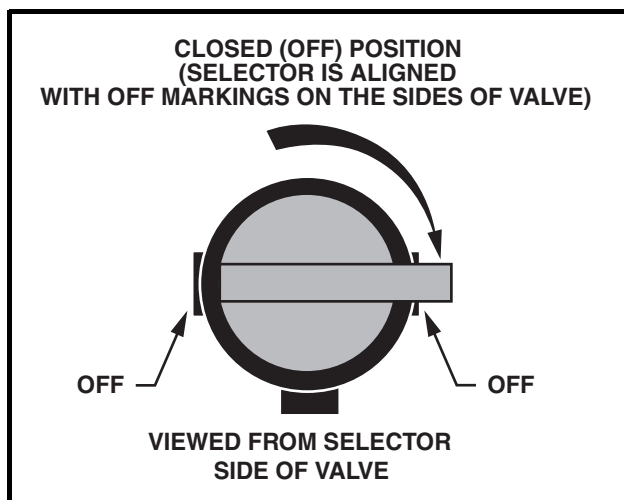

Figure 20 Fuel Shut-off Valve – Closed Position
2. Turn the key switch to the OFF position and place the Forward/Reverse handle or switch in the NEUTRAL position. Remove the key when the vehicle is not in use. For gasoline vehicles, also turn off the fuel shut-off valve (**Figure 20, Page 29**).
- Gasoline vehicles only: Turn the fuel shut-off valve to closed (OFF) position (Figure 20, Page 29).
- **Gasoline vehicles only:** Turn the fuel shut-off valve to the closed (OFF) position (Figure 20, Page 29).
- Turn the fuel shut-off valve to closed (OFF) position (**Figure 20**).
- 2.1. Place the Forward/Reverse handle in the NEUTRAL position and the neutral lockout cam in the MAINTENANCE position. Turn the fuel shut-off valve to the closed (OFF) position (**Figure 20, Page 29**) and run the engine until fuel remaining in the carburetor and fuel lines is depleted and the engine stalls. Return the neutral lockout cam to the OPERATE position.
- Turn the fuel shut-off valve to the closed (OFF) position (Figure 20, Page 29).